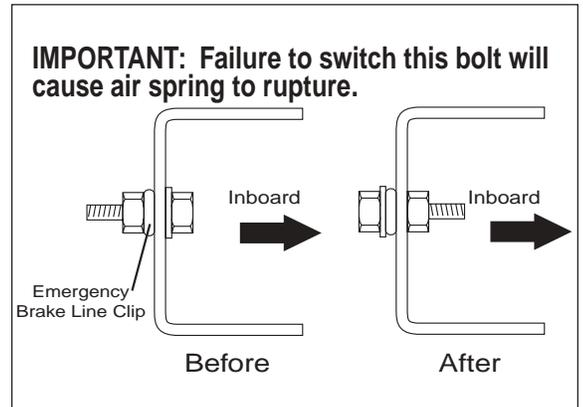

Figure 6
- b. *NOTE:* For 1999 and later Super Duty F-250 and F-350 trucks, remove the bolt holding the emergency brake cable to the outside of the frame rail. Reinstall the bolt in the reverse order, with the nut on the inside of the frame rail to prevent rubbing against the air spring (Figure 6).